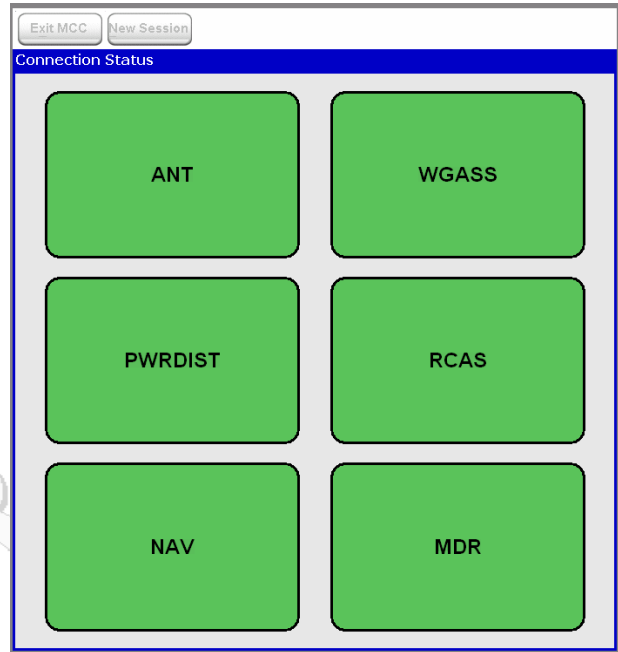

Figure 11: STAR-3/4/5/6 Idle State MFD
- 1) Wait for the module widgets to turn green, see Fig. 11.  Unlike the other five widgets, the MDR widget will remain yellow until a new session is started. It is normal for some system faults to be reported during Start-up. This is due to timeouts waiting for status while the module is booting. Review the Fault list carefully. The system faults can be safely cleared at any time. Persistent faults cannot be cleared and the widget will remain red.